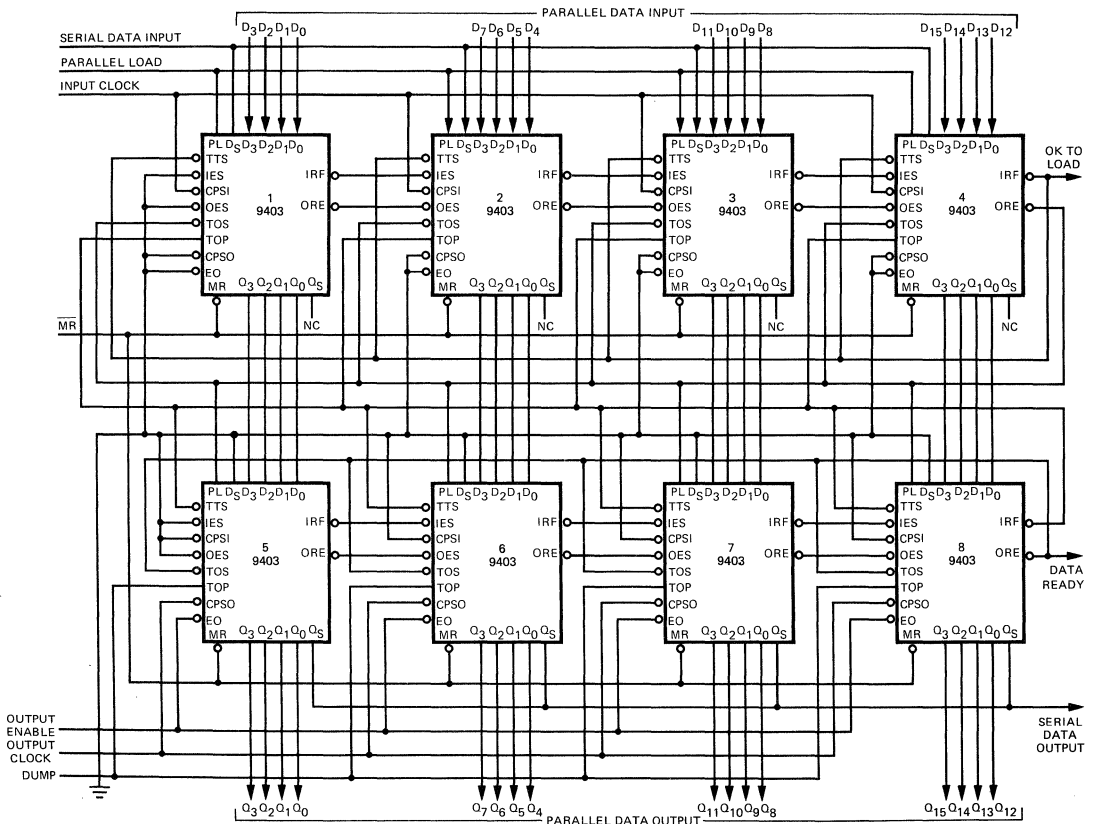
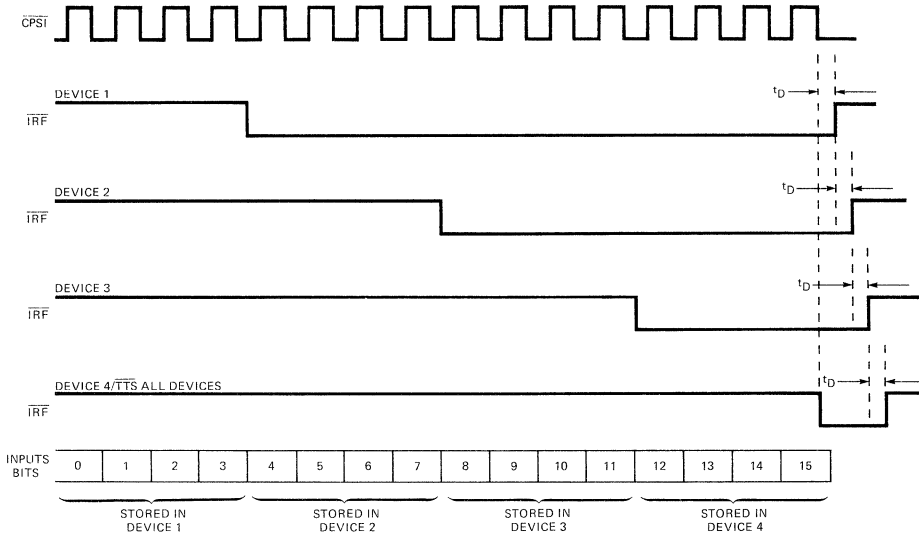
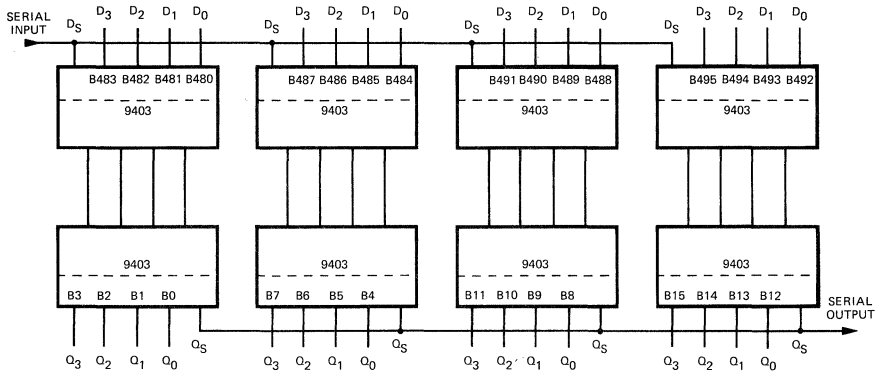

Fig. 6
Fig. 7
Fig. 9
**Horizontal and Vertical Expansion** – The 9403 can be expanded in both the horizontal and vertical direction without any external parts and without sacrificing any of the FIFO's flexibility for serial/parallel input and output. The interconnections necessary to form a 31-word by 16-bit FIFO are shown in Figure 6. Using the same technique, any FIFO of  $15n_1 + 1$  words by  $4 \times n_2$  bits can be constructed.
Figures 7 and 8 show the timing diagrams for serial data entry and extraction for the 31-word by 16-bit FIFO shown in Figure 6. The final position of data after serial insertion of 496 bits into the FIFO array of Figure 6 is shown in Figure 9.
SERIAL DATA ENTRY FOR ARRAY OF FIG. 6
SERIAL DATA EXTRACTION FOR ARRAY OF FIG. 6
In the 9403 array of Figure 6 devices 1 and 5 are defined as "row masters" and the other devices are slaves to the master in their row. No slave in a given row will initialize its Input Register until it has received LOW on its IES input from a row master or a slave of higher priority.